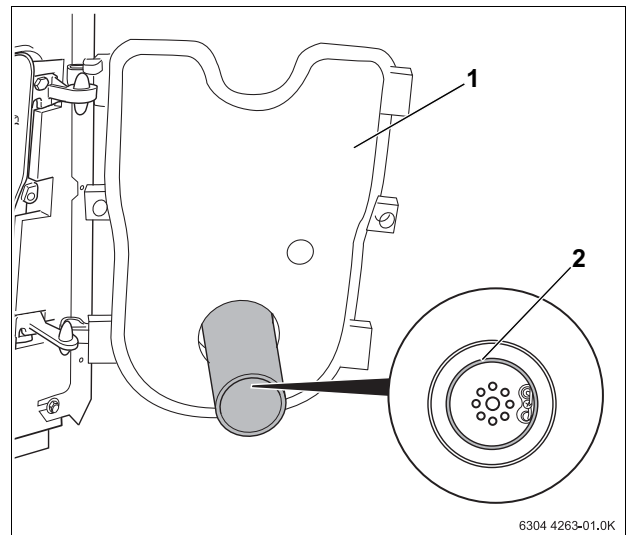

Fig. 29 Checking correct installation of gasket
- With the burner door (Fig. 29, **Item 1**) open, check that the gasket (Fig. 29, **Item 2**) is properly seated.
- Close the burner door (Fig. 29, **Item 1**) and tighten the burner door bolts (to approx. 35 ft. lbs).